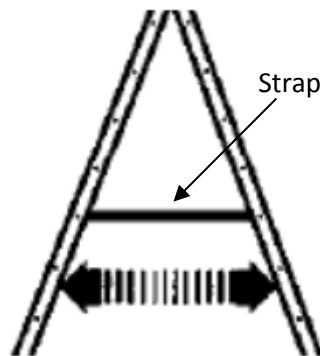

Fig. 8
- Put up the complete ladder and open it up as step-ladder to maximum possible extent (the straps are stretched, Fig. 8).
- c) Put up the ladder and open it as step-ladder to maximum possible extent (the straps are stretched, Fig. 8).
- b) Put up the steps and open them in the maximum possible extent (the strings are stretched, Fig.8),
- e) Check the condition of strings carefully, as they are the safety measure preventing excessive opening (Fig. 8).